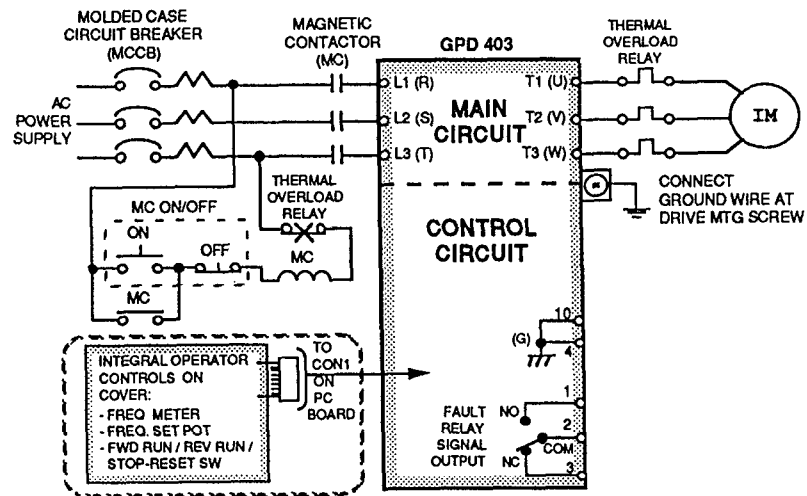

Figure 3. Basic Interconnections Using Local (Integral) Operator Control (DS1-4 in ON Position)
3 WIRING. Connections must be made according to either Figure 3 or Figure 4 (see pages 6 and 8) Before wiring, remove GPD 403 front cover Run the leads through the lead entrance at the bottom of the unit and connect them at the terminal blocks
3.3.1 Local Operator Control. If operation will be controlled using only the operator devices mounted on the GPD 403 front cover, complete wire connections using Figure 3